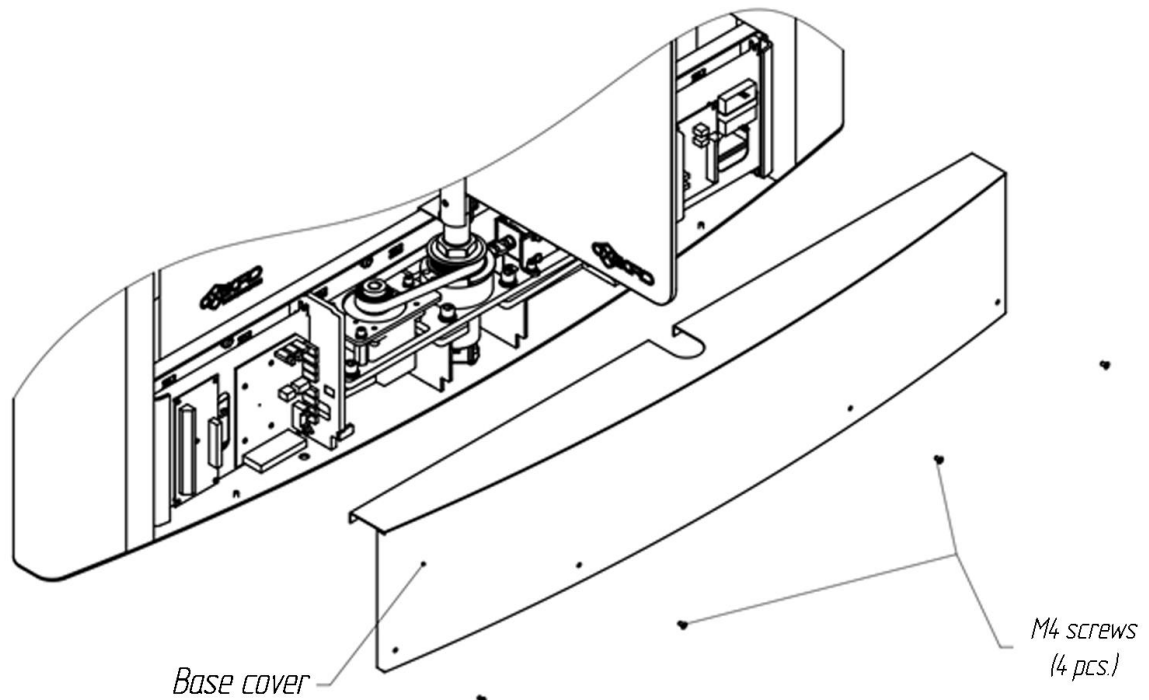

Fig.1
3.2. In order to obtain access to necessary units of speedgate remove base cover by unscrewing the M4 screws (Fig. 1).